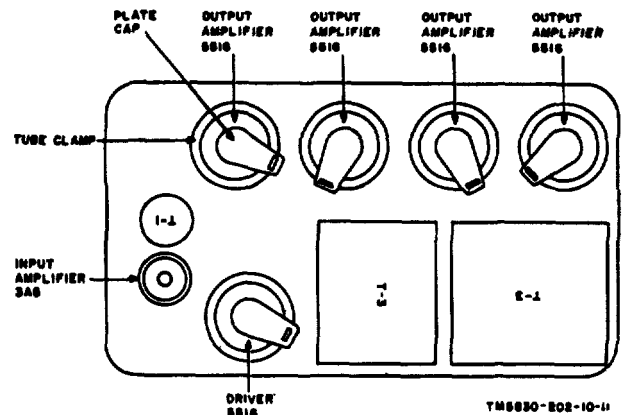

Figure 9. Tube location diagram.
- (1) Release the luggage catches and remove the upper cover (fig. 3) to expose the tubes (fig. 9).
- (2) Replace the defective tube, or the tube suspected of being defective, with a new tube.